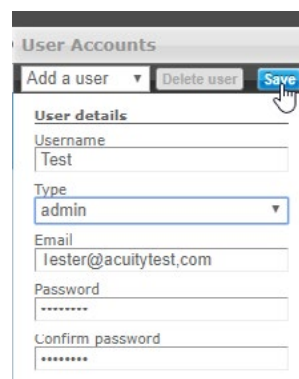

Figure 07: Save New User
4. Click the **Save** button to save the new user data (Figure 07).